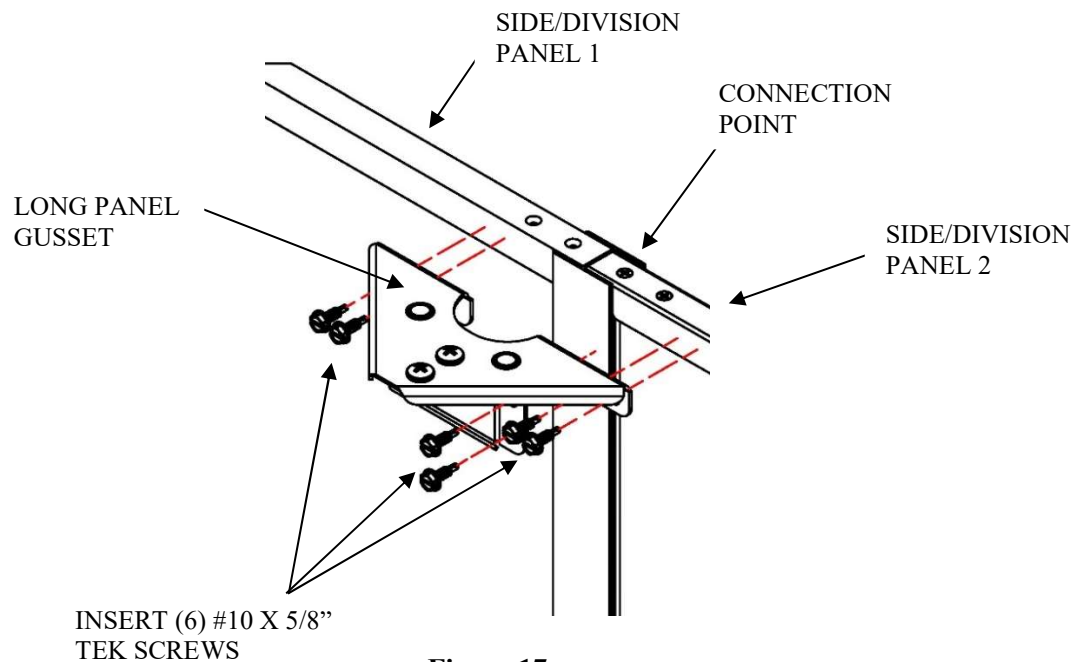

Figure 17
6. Once gusset has been assembled, ensure that the top of the gusset and top of the panel are flush. Then, attach gusset to the side panel connection point using the supplied Tek screws, as shown in Figure 17.